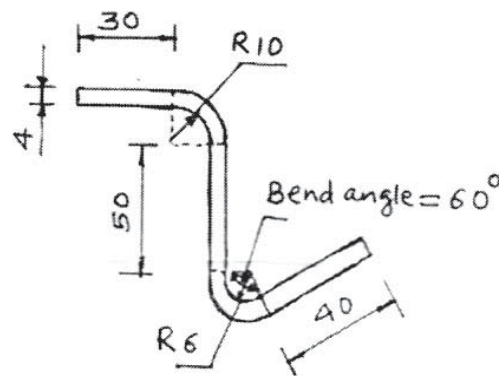

Figure No.2
- b) Calculate developed length of the part as shown in figure no. 2. [8]